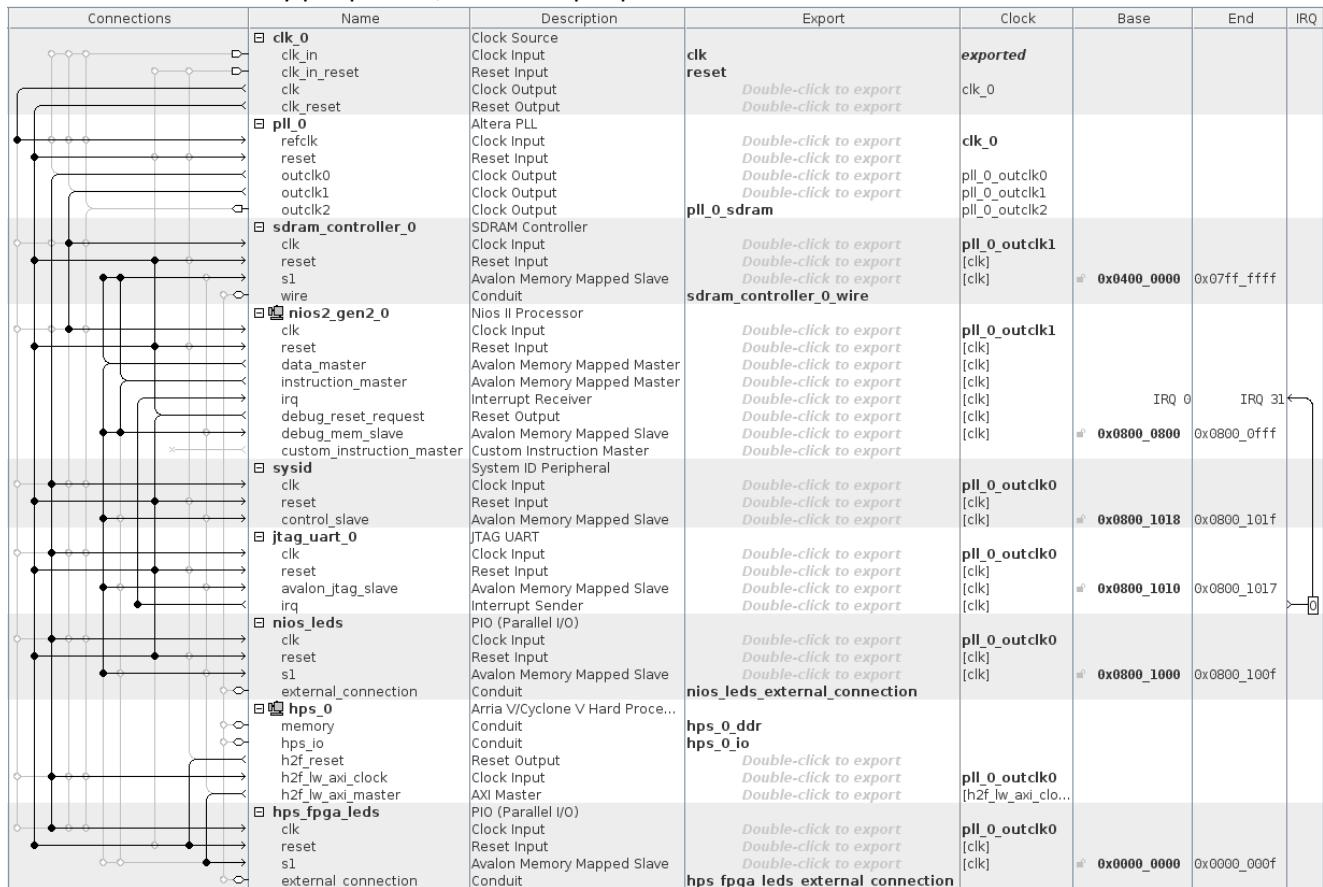

Figure 9-14. Adding Buttons and 7-segment Displays to the Lightweight HPS-to-FPGA Bridge
27. Connect the system as shown in Figure 9-14 below. Notice that we use “hps_0.h2f_reset” as the reset signal for the components connected to the HPS. This is a design choice so we can separately reset FPGA-only peripherals, and FPGA peripherals connected to the HPS.